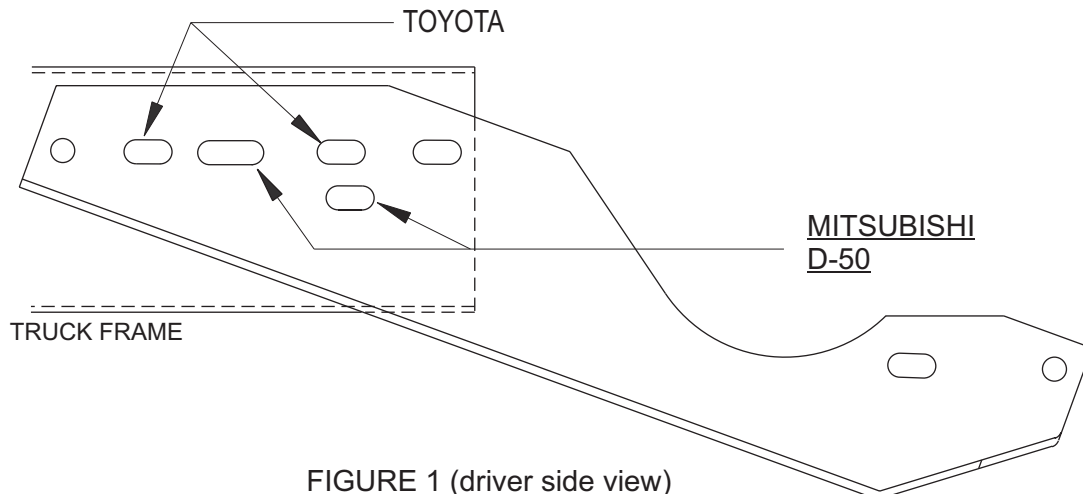

FIGURE 1 (driver side view)
- STEP 1: Using 1/2 inch hardware, loosely install mounting brackets on the outside of truck frame rails with the offset inboard. Refer to figures 1 and 2. DO NOT TIGHTEN mounting hardware at this time.